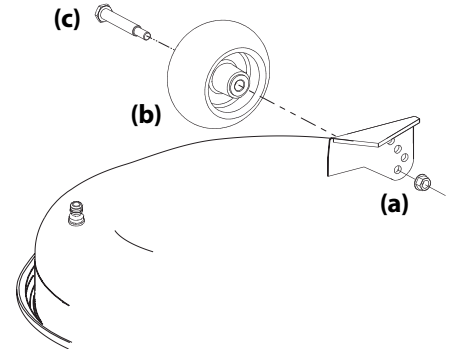

Figure 2-17
- a. Remove the lock nut securing one of the front gauge wheel shoulder screws to the deck. Remove the gauge wheel and shoulder screw. See Figure 2-17.